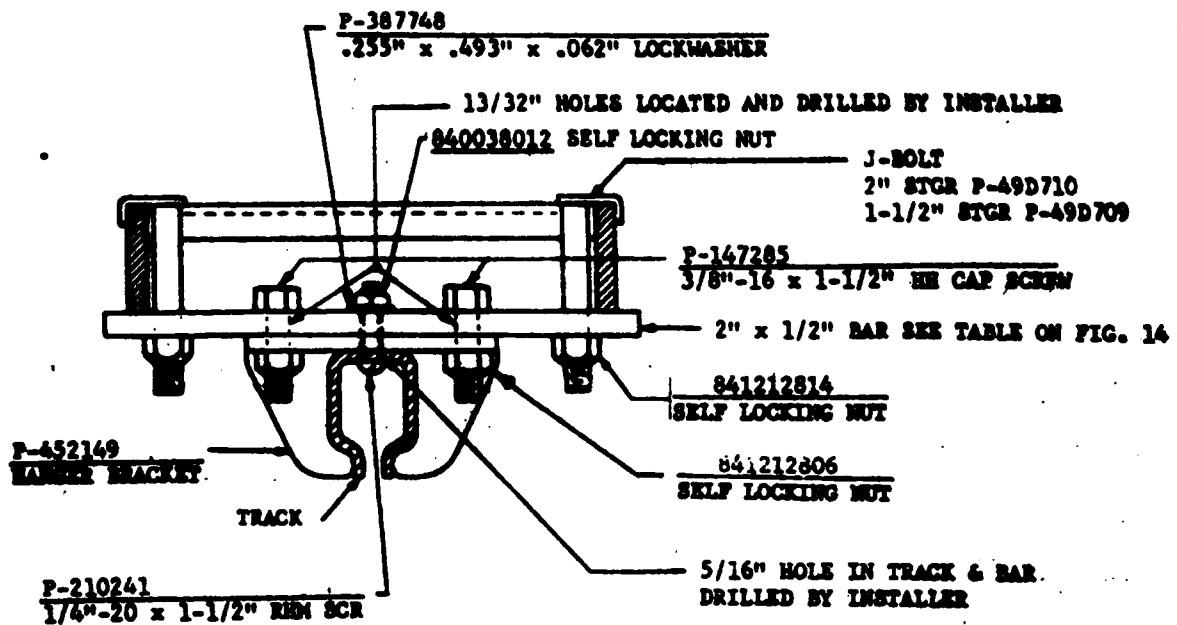

FIG. 18 TRACK SUPPORTED WITH SINGLE BAR DIRECTLY FROM CABLE RACK 2'-1" OR LESS WIDE (PARS. 4.314, 4.411 AND 5.41) (BSP 800-614-159 FIG. 18)
4.314 Where track is supported from cable rack or lattice work as shown in Figures 18 and 19, the regular creeper bolt cannot be used. Here a 5/16" hole should be drilled in the 1/2" bar in line with the hole in the hanger bracket and a P-210305, 1/4" 20 x 1-1/4" R.H.M. Screw should be used for bolting the track to the support bracket on the 1/2" bar.